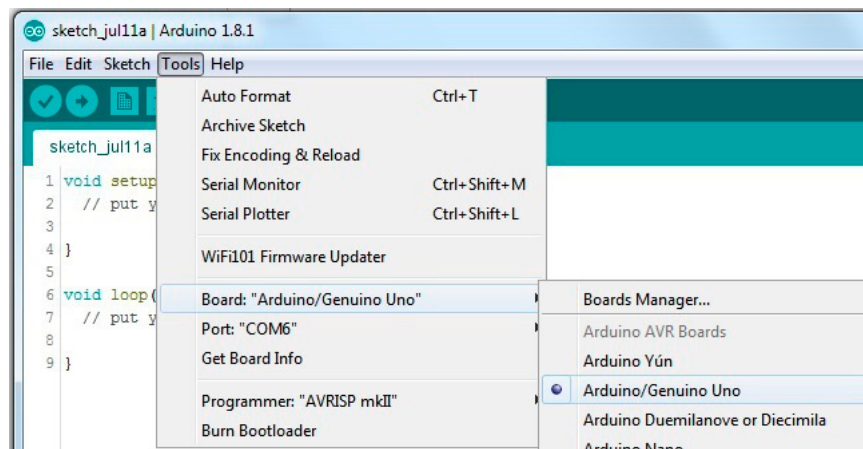

Figure 7. Selecting Compatible Microcontroller Board
5. Select the correct Arduino compatible microcontroller board. Under the **Tools** menu, select **Board** → **Arduino/Genuino Uno** with the ● black dot symbol (see Figure 7).